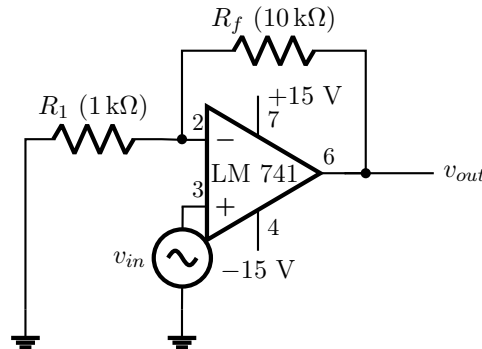

Figure 6.2: Non-Inverting Amplifier Circuit Diagram
1. Reconfigure the circuit to form the non-inverting amplifier as shown in Figure 6.2.